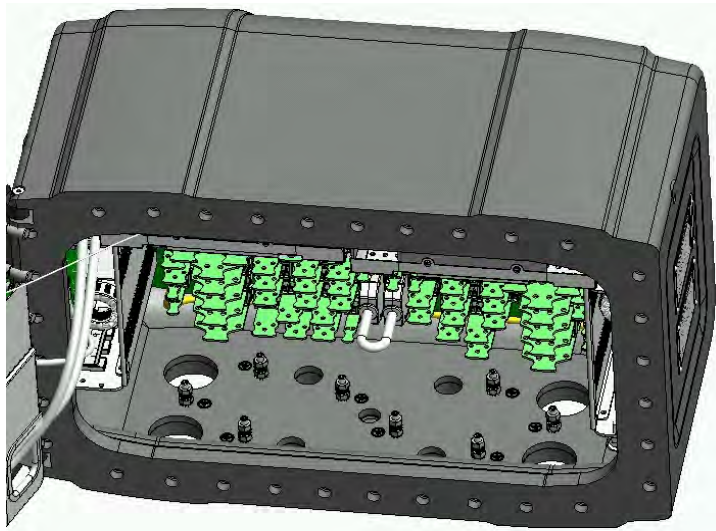

FIGURE 3-15
The Protected Earth (PE) ground connections for external cables are connected to one of the nine M4 studs at the bottom, using the gland entries, as displayed in FIGURE 3-15.